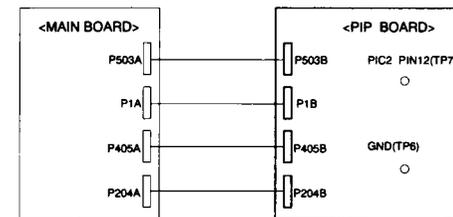

Figure 12
- Connect each pin as shown in figure 12 and supply power source to the TV receiver.
- Connect each pin as shown in figure 12 and supply the power source to the TV receiver.